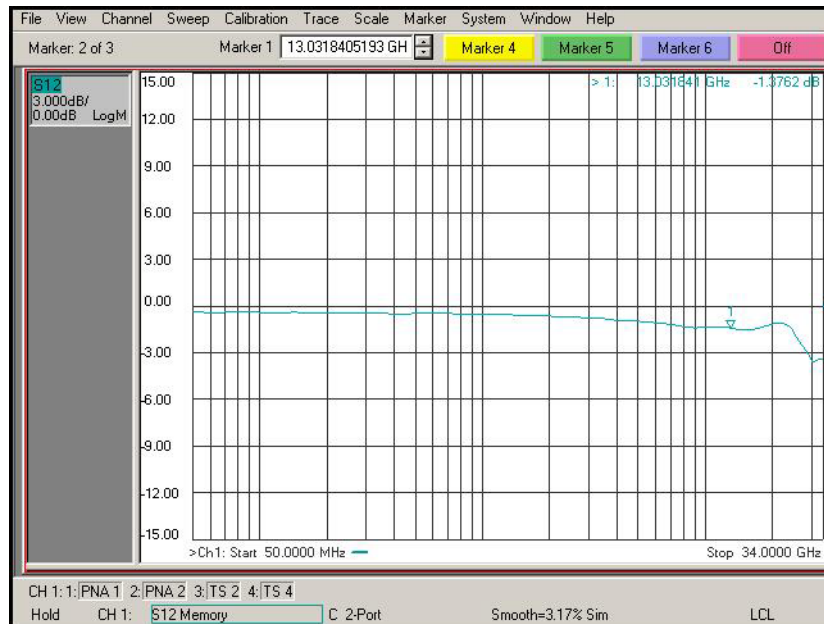

Figure 95 De-Embedded V_{in} Trace
- 10** Trigger the VNA to perform a single sweep. Press “Trigger” under Channel Setup, and then the green soft-key for “Single”. Display should look like **Figure 95** on page 123. If it looks noticeably different, the probe tip wires may not be making contact under the pincher.